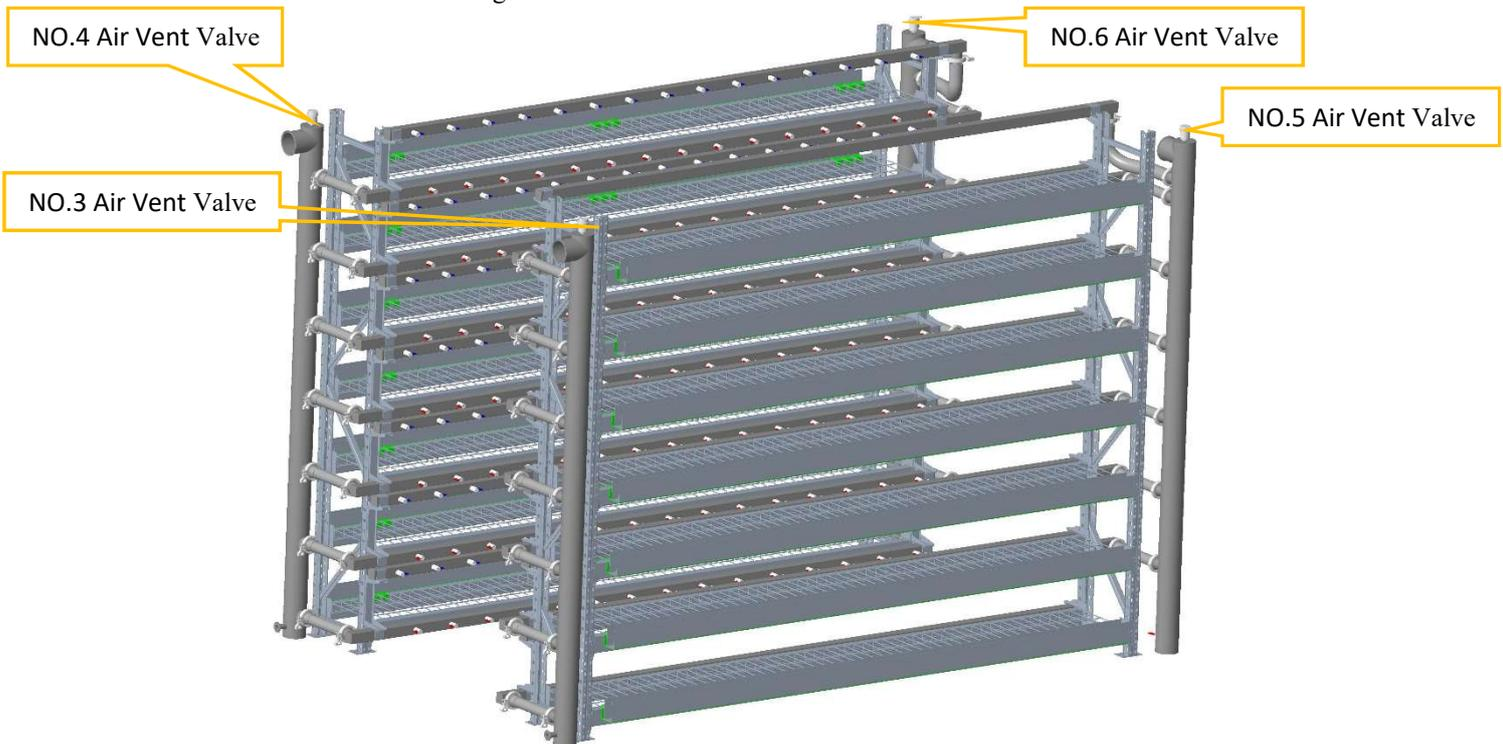

Figure 5-3-2 Manifold-Air Vent Valve
- 4) Open the top exhaust valve of the water tank and install the chuck, ensuring that the tank is connected to atmospheric pressure. (See Figure 5-3-2).